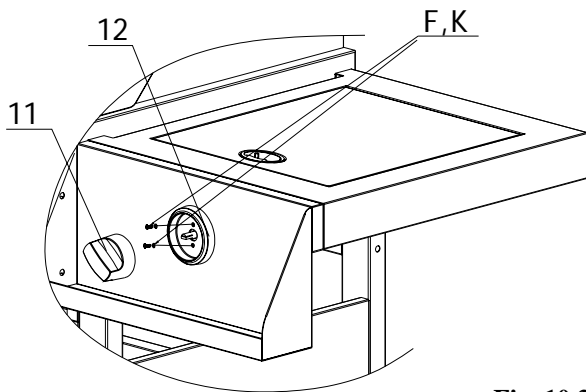

**Fig. 10.1**
- Thread the Side Burner Valve (36) into the hole provided on the Right Side Burner Shelf (10), as shown in Fig. 10.1.